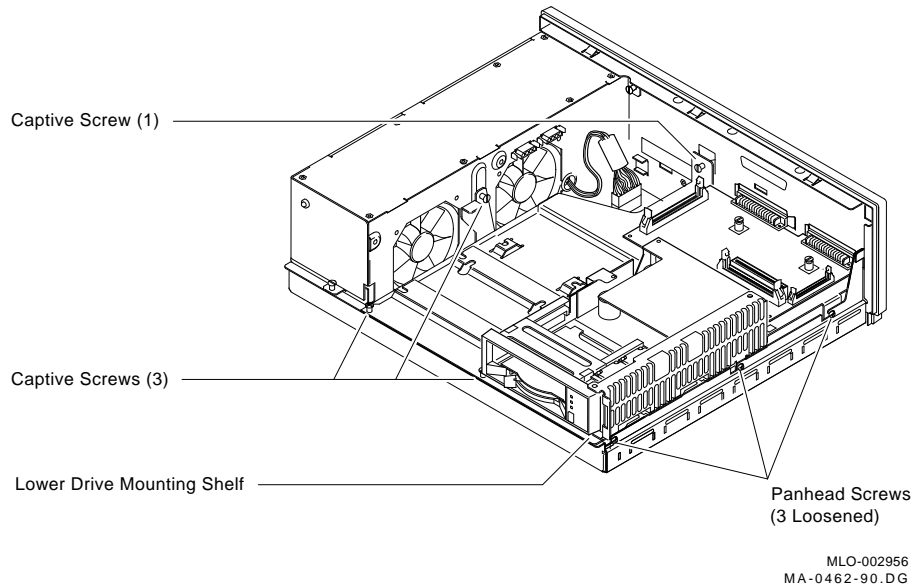

Figure 2-6 Lower Drive Mounting Shelf Removal
4. On the lower drive mounting shelf, loosen the four captive screws on the top, and the three panhead screws located on the right-hand side of the shelf (Figure 2-6).